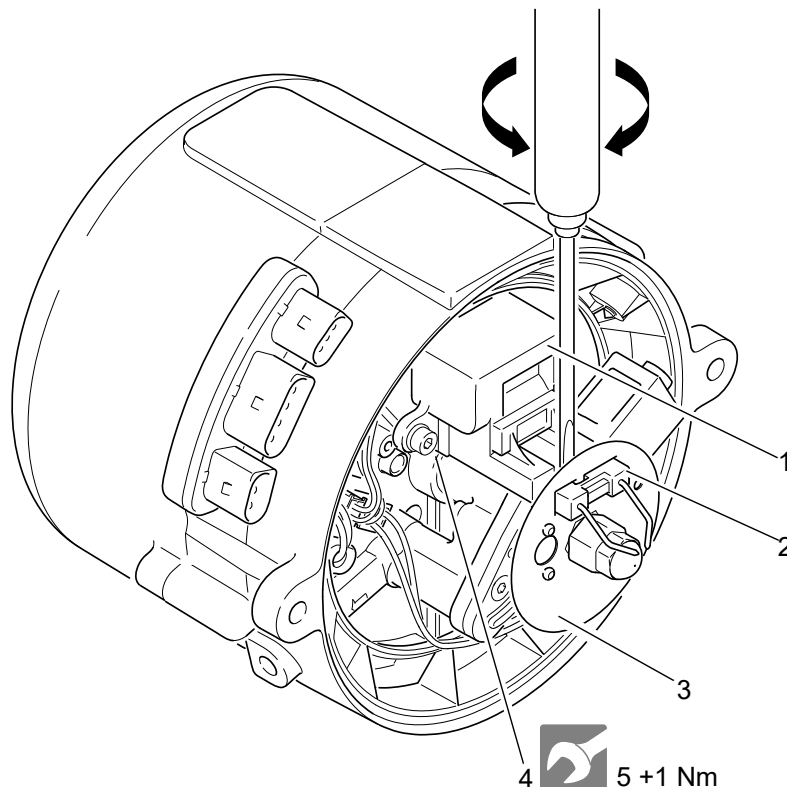

Fig. 804 Removal of the electronic ignition unit / ignition electrode
2. Lift off ignition electrode (2, Fig. 804) from the electronic ignition unit by twisting a screwdriver sideways.
3. Remove disc (3).
4. Removes screws (4) with retaining washers.
5. Pull electronic ignition unit (1) off and remove it.
1. Bring electronic ignition unit (1, Fig. 804) into installation position, attach ready for connection and secure with screws (4).
3. Fit the ignition electrode (2, Fig. 804).
2. Lift off ignition electrode (2, Fig. 804) from the electronic ignition unit by twisting a screwdriver sideways (see Fig. 804).